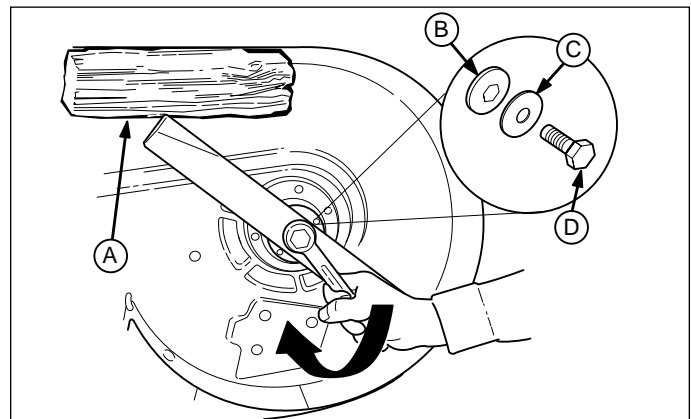

Figure 26. Blade Installation - 38", 44", 50" Mowers
6. Reinstall the blade (Figures 26) with the tabs pointing up toward the mower deck as shown. Reinstall the alignment pin (E).
7. **38", 44", & 50" Mowers:** Reinstall the hex washer (B, Figure 26), spring washer (C) and capscrew (D). Use a wooden block (A) to prevent blade rotation while tightening the capscrew (D) to 61-75 N.m (45-55 ft. lbs.).